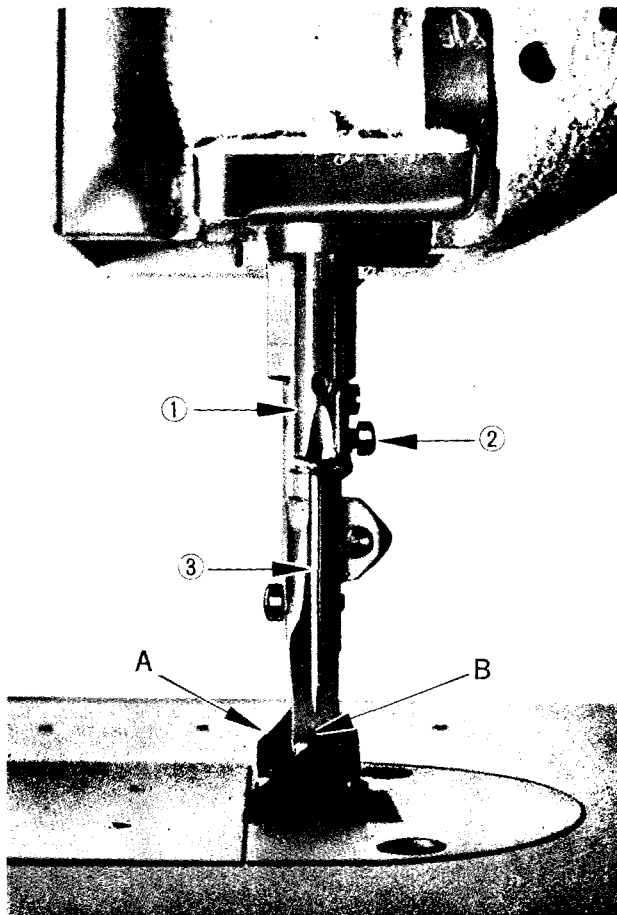

Fig. 7
**NEEDLE** (Fig. 7)
2. When altering the lift of the lifting presser foot (A, Fig. 7) unequally against that of the vibrating presser foot (B, Fig. 7) or vice versa, see the instructions "ADJUSTING THE HEIGHT OF THE PRESSER FEET"